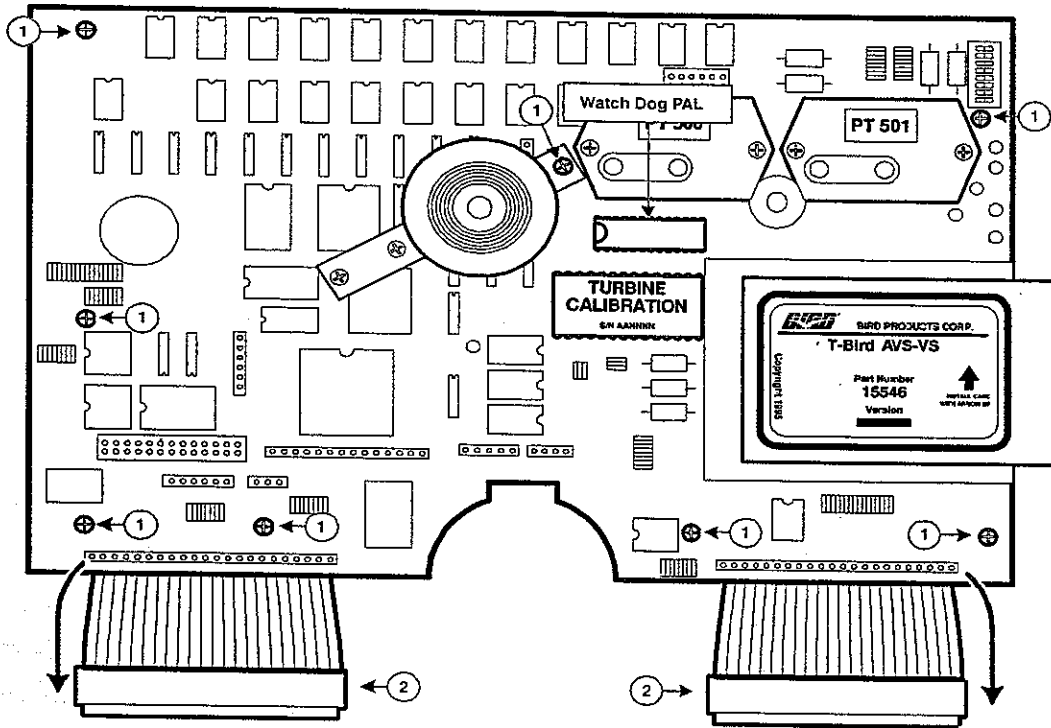

Figure 5-8. Main PCB, Watch Dog PAL
- 3 Referring to Figure 5-8, locate the Watch Dog PAL on the Main PCB.
- c) Remove the eight (8) screws securing the Main and Display PCBs to the front panel. Note that one (1) mounting screw is on the alarm. (Refer to Figure 5-8, Ref 1.)
- d) Disconnect the two (2) ribbon cables attached to the lower corners of the Main PCBA. (Refer to Figure 5-8, Ref 2.)
- f) Gently disengage the connector in the lower left corner of the of the two (2) PCBs.